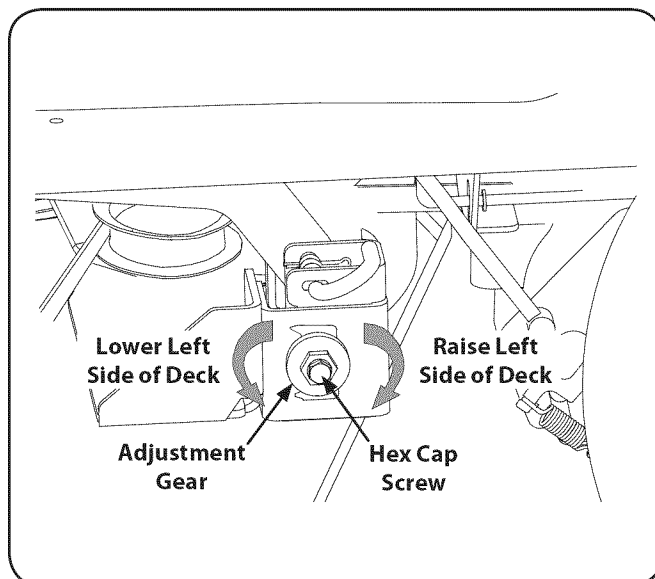

Figure 6-4
5. Loosen, but do not remove, the hex cap screw on the left deck hanger bracket. See Fig. 6-4.
6. Level the deck by using a wrench to turn the adjustment gear (found immediately behind the hex cap screw just loosened) clockwise to raise the left side of the deck, or counterclockwise to lower the left side of the deck. See Fig. 6-4.